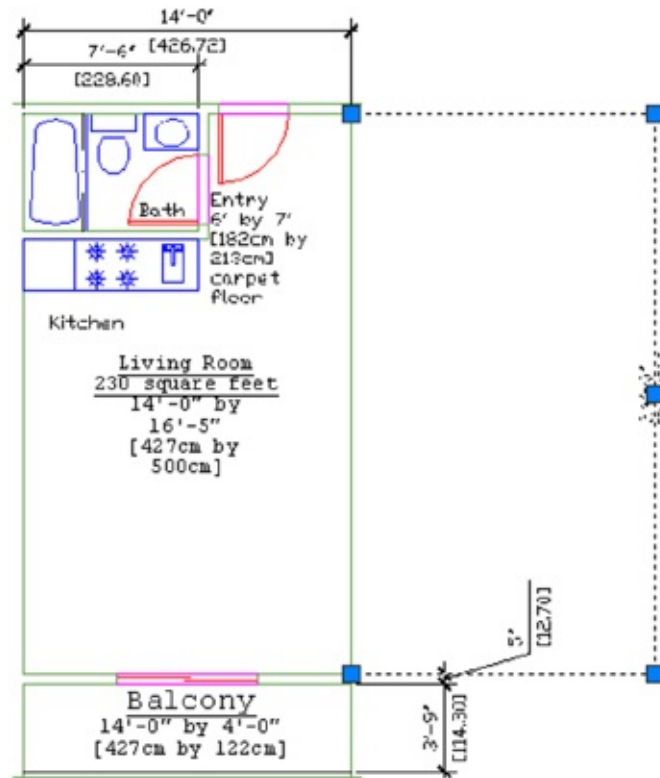

FIGURE 11.19 Moving the dimension line by using its grip
3. Enter `@9'<0`. Metric users should enter `@275<0`. The dimension line, text, and dimension extensions stretch to the new location to the right of the text (see Figure 11.19).